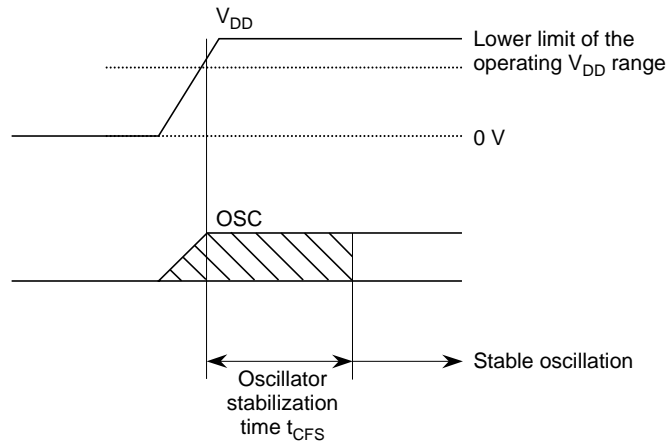

Figure 4 Oscillator Stabilization Time
8. Indicates the required time for oscillation to stabilize starting from the point when V_{DD} first exceeds the lower limit of the operating supply voltage range. (See figure 4.)